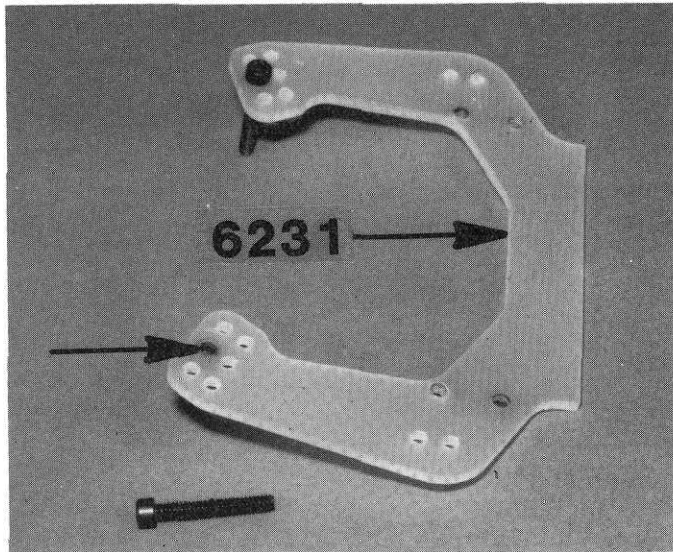

**Fig. 13**
□ **Figs. 13 & 13a** Line up the holes in the block carrier with the holes in the A-arm and push the #6227 outer pin into the arm. Install the "E" clips. Do the R.H. side.